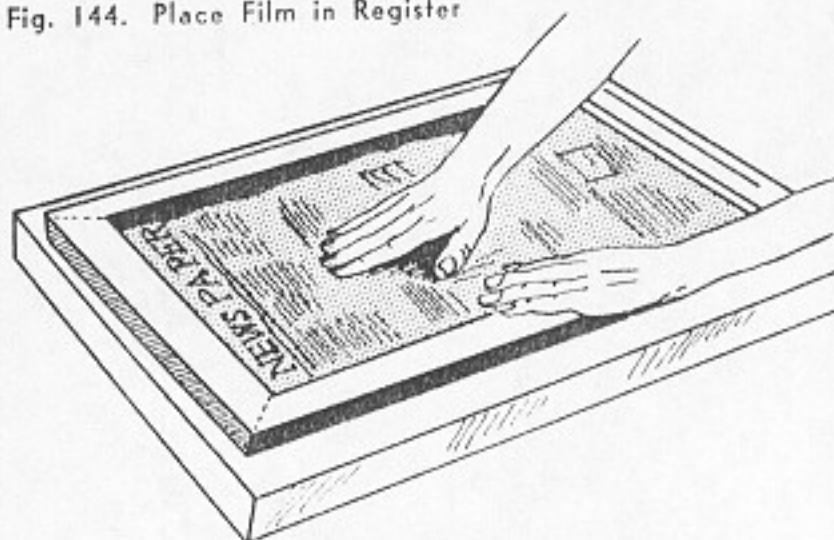
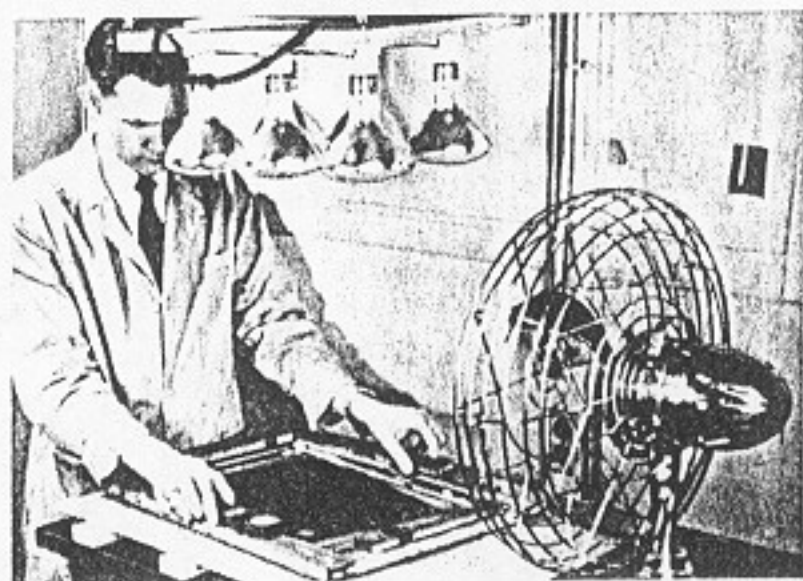

Fig. 145. Adhere the Film
Fig. 152. Adhere to Screen in Usual Manner
12. Lower the screen frame. Place a newspaper over the silk and rub the paper gently, Fig. 145. The newspaper will absorb the excess moisture through the screen, and at the same time the pressure will cause the film to adhere to the
5. The film is then adhered to the screen in the manner shown in Fig. 145. It is advisable that the screen be wet. Drying is best accomplished by using a combination of heat and circulating air, Fig. 152. The heat in the illustration is furnished by a bank of infra-red lamps overhead. Many of the usual types of gelatin photographic films cannot be subjected to heat. This type can, providing the air is kept circulating.
To test the washing out blow against the washed out areas. They should be thoroughly clear and free of emulsion. Dry the screen thoroughly with squares of newspaper as shown in Fig. 145.